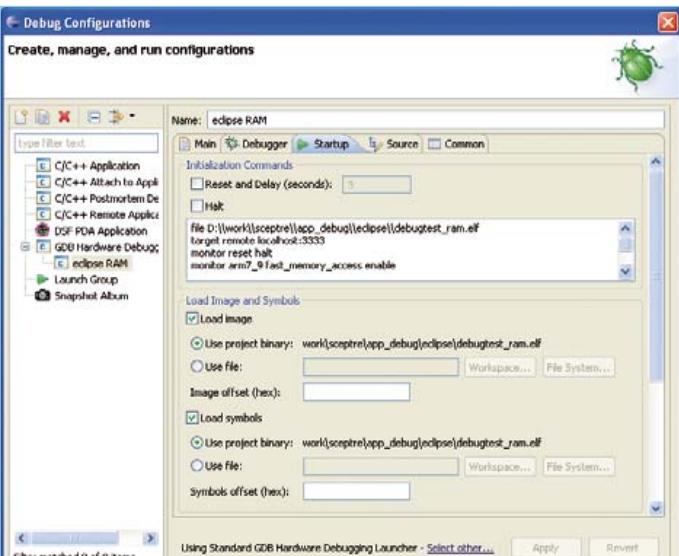

Figure 10. Third tab. The parameters accessible via the scrollbar are blank (by default).
- To load the debugging symbols, Eclipse executes GDB's command `symbol-file` instead of the `file` command. As a result, the executable is not loaded by GDB and a subsequent `load` command will fail. So in the case of debugging from the RAM, you'll have to explicitly add the `file` command to the list of start-up commands (or load the program manually in the GDB console). In that case, remember to specify the full pathname, using double slashes `\"` in place of each `'`, as in **Figure 10**.